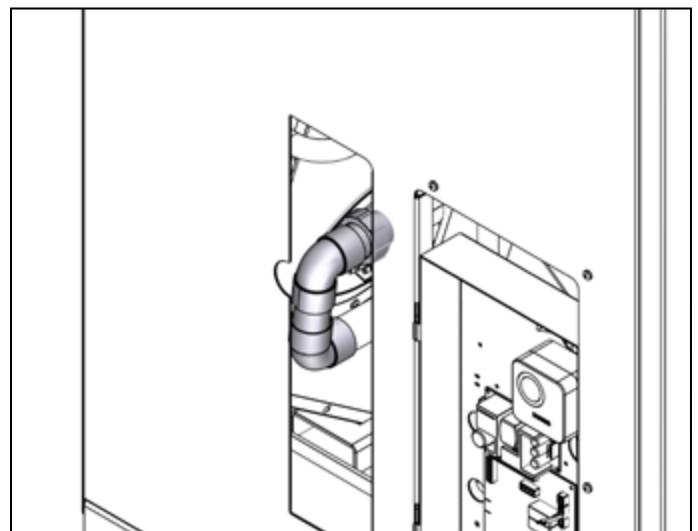

Figure 5-3: Condensate pipe to fit trap on right side of boiler
- Using the required lengths of 32mm (1¼") waste pipe and two 90° elbows, connect a pipe from the connector on the boiler condensate outlet to pass through the hole in the right hand boiler side panel. Refer to Figure 5-3.